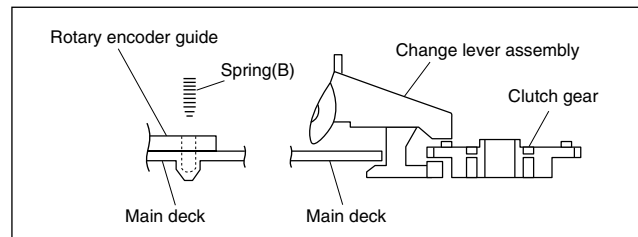

Fig. 2-2-12b
- (2) Let the spring (B) drops into the rotary encoder guide hole and install the change lever assembly.(Take care not to mistake a direction of the spring.) The point is to slightly lift the clutch gear and catch it from the both sides with the assembly. (See Fig.2-2-12b.)